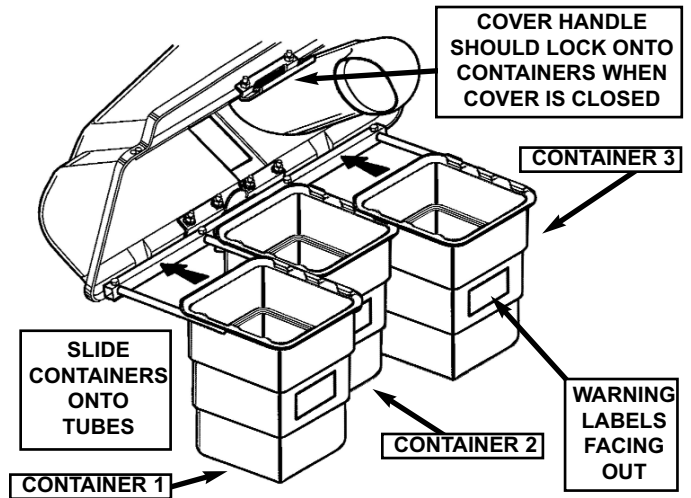

FIGURE 20
STEP 14: Flip open the cover assembly, then slide each container fully onto the U-tube assembly. See Figure 20.